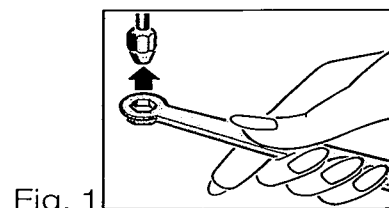

Fig. 1
2. Remove nozzle by means of the hexagonal opening at the end of the measuring spoon. Turn right to left to unscrew the nozzle (Fig. 1 + 2).